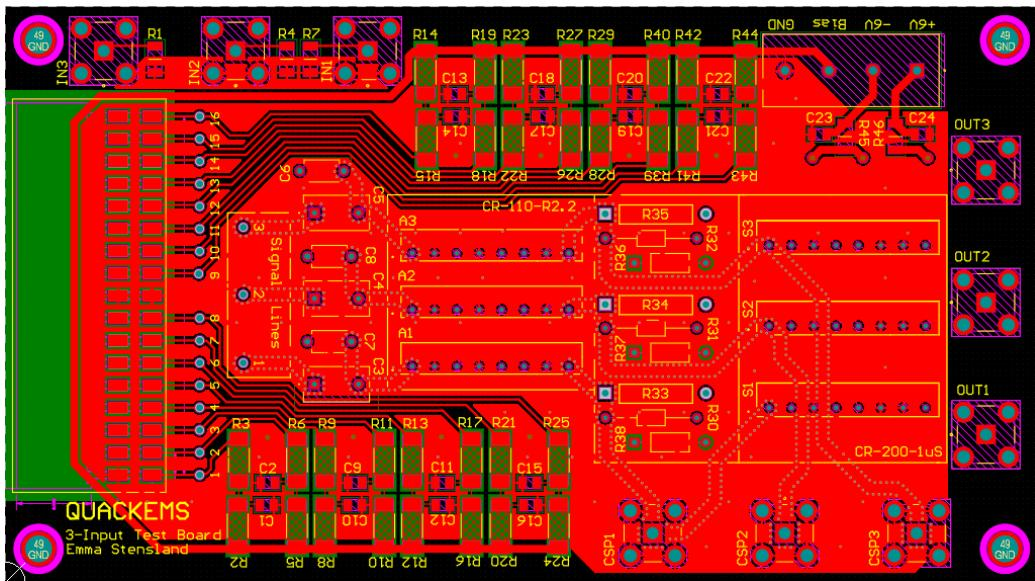

Figure 12: Layer 1 of 3-Input Test Board
1. Ground Plane, Bias Signals, Surface Mount Signals (Fig. 12)